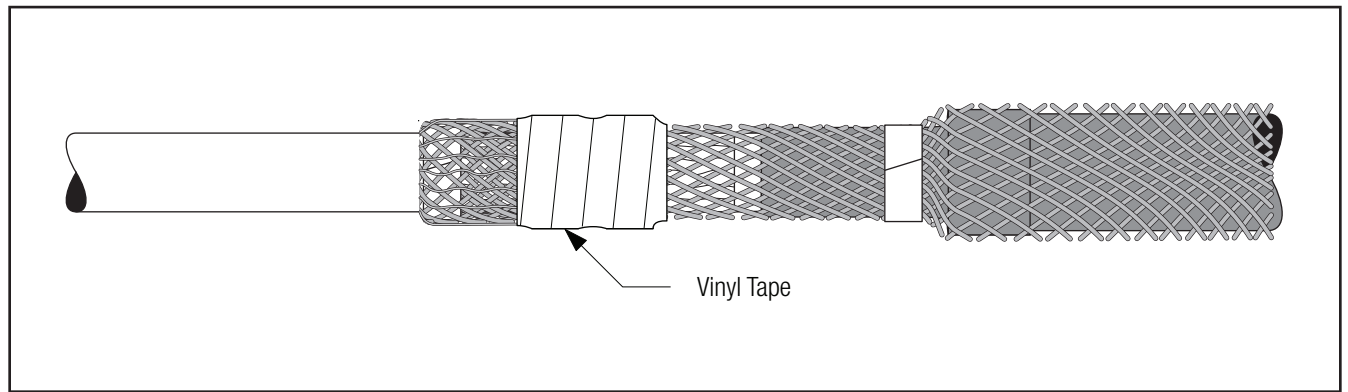

Figure 30
6.4.3 Wrap two layers of stretched vinyl tape over springs (*Figure 30*).